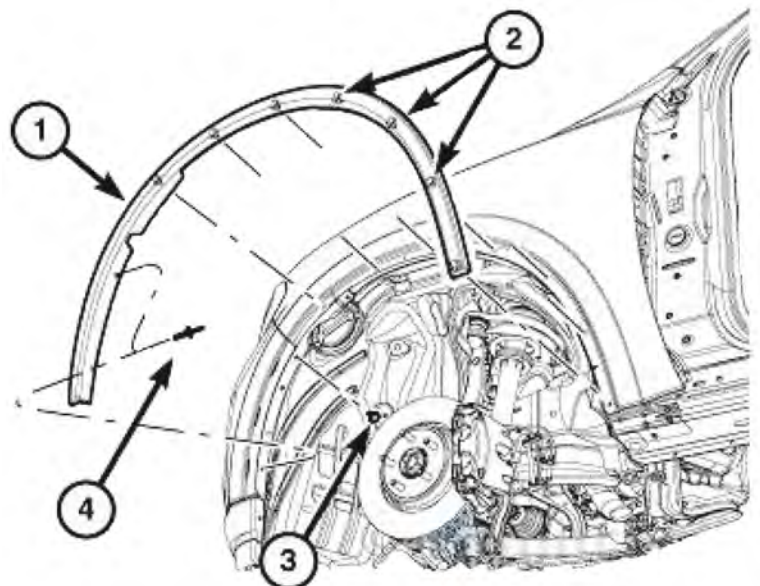

FIG. 1
- A. Using Trim Stick C-4755 or equivalent, carefully release the seven clips (2) attaching the flare (1) to the fender and remove the flare. (Fig. 1)
- B. Remove the fasteners (3) that secure the wheel liners to the fascia. (Fig. 1)